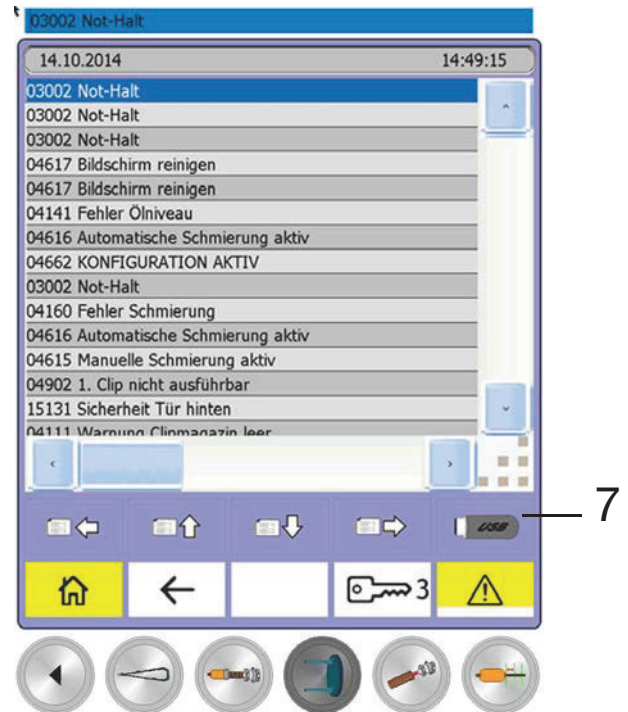

Fig. 4-48
- Press the USB Stick icon selection button (7, Fig. 4-48).